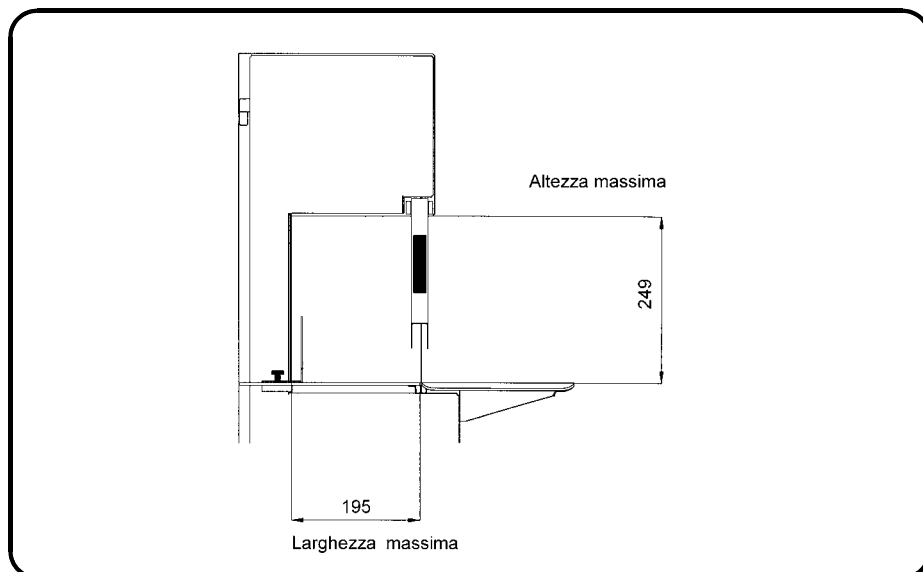

Fig. 2.3.1
2.3 Maximum dimensions of the product to be cut (Fig. 2.3.1)